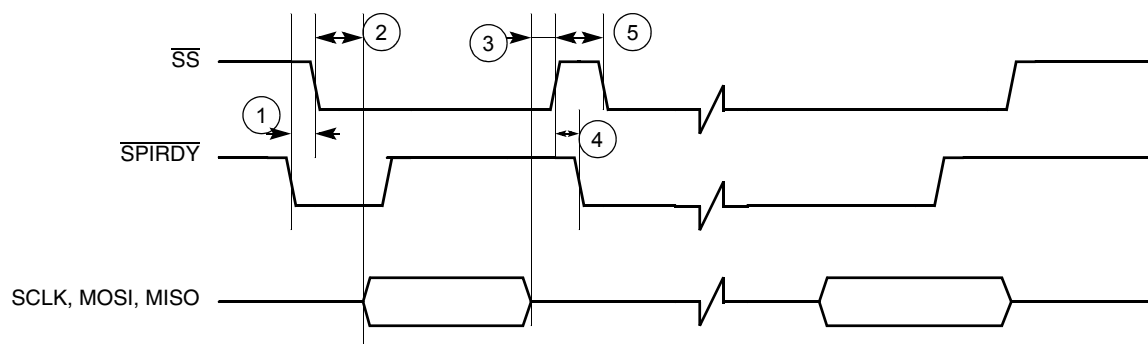
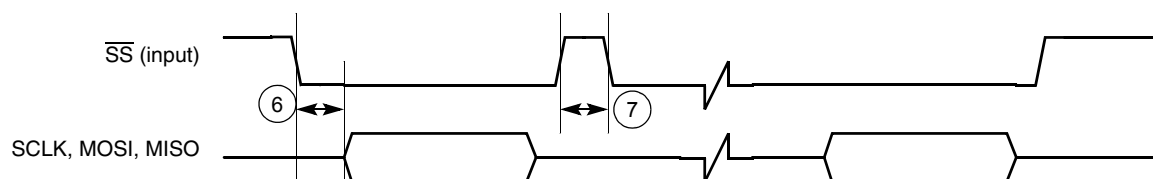

Figure 31. Master SPI Timing Diagram Using $\overline{SPI_RDY}$ Edge Trigger
Figure 35. Slave SPI Timing Diagram FIFO Advanced by $\overline{SS}$ Rising Edge
To utilize the internal transmit (TX) and receive (RX) data FIFOs when the SPI 1 module is configured as a master, two control signals are used for data transfer rate control: the $\overline{SS}$ signal (output) and the $\overline{SPI_RDY}$ signal (input). The SPI 1 Sample Period Control Register (PERIODREG1) and the SPI 2 Sample Period Control Register (PERIODREG2) can also be programmed to a fixed data transfer rate for either SPI 1 or SPI 2. When the SPI 1 module is configured as a slave, the user can configure the SPI 1 Control Register (CONTROLREG1) to match the external SPI master's timing. In this configuration, $\overline{SS}$ becomes an input signal, and is used to latch data into or load data out to the internal data shift registers, as well as to increment the data FIFO. Figure 31 through Figure 35 show the timing relationship of the master SPI using different triggering mechanisms.
Table 15. Timing Parameter Table for Figure 31 through Figure 35